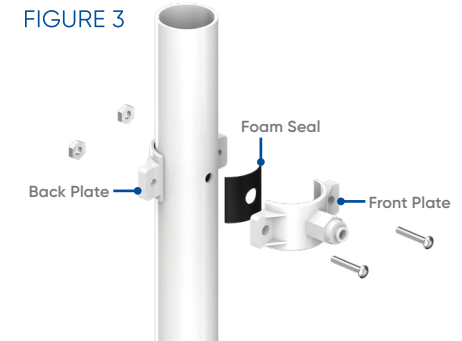

FIGURE 4
3. Slip the front plate on one end of the tubing and insert the tubing into the drilled hole about 0.6" (Figure 4).